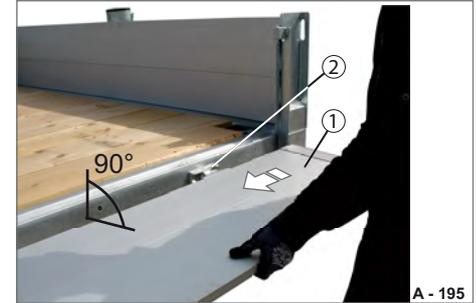

Fig. 136 Sliding in the platform gate
- ▶ Slide the platform gate (Fig. 136/1) into the platform gate hinges (Fig. 136/2).